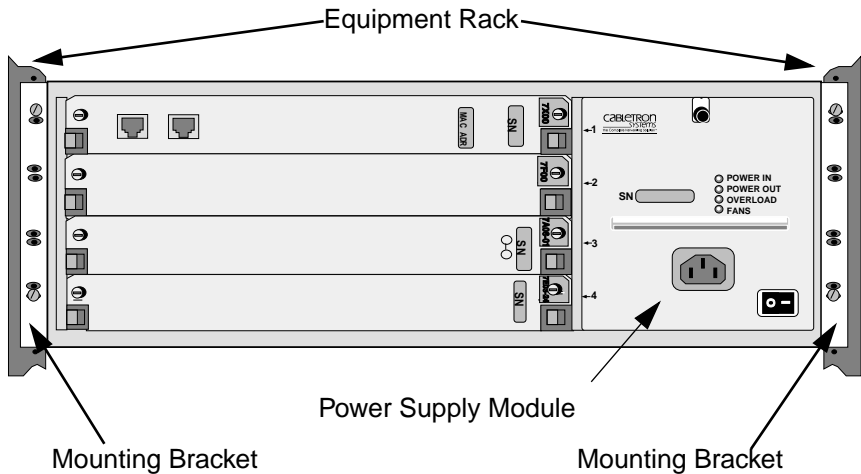

Figure 2-2. A 7C04 Chassis mounted in an equipment rack
To mount the 7C04 Chassis in a standard 19-inch equipment rack, (Figure 2-2) use the following steps:
The 7C04 Chassis is equipped with a removable power supply module. The power supply module which is located in the right section of the chassis (Figure 2-2) operates on either 120 volts or 240 volts (AC) and automatically senses input power. The modular nature of the chassis' power supply allows it to be easily removed and/or replaced.